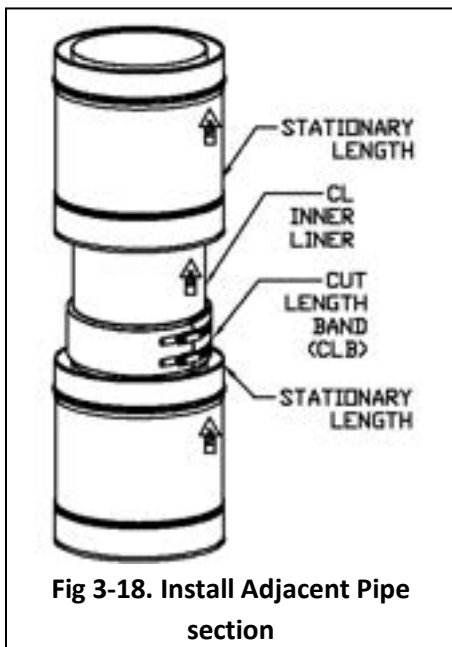

Fig 3-18. Install Adjacent Pipe section
10. Install next adjoining pipe section. Refer to NAKS-CK Joint Assembly Section. (See Fig 3-18).